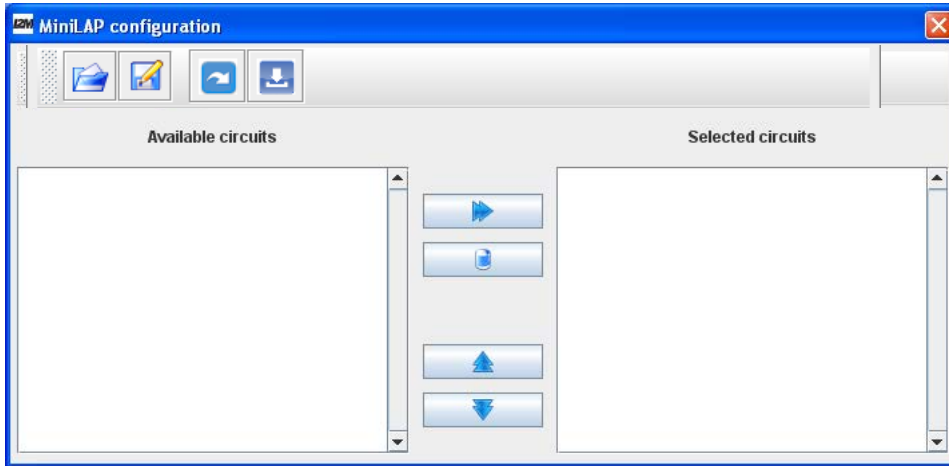

Fig. 6- Configura circuiti MiniLAP
- **Configure MiniLAP circuits:** this function of the online menu opens a window for library management as shown in figure 6.